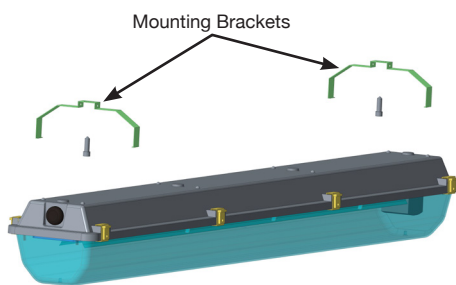

FIG 4
1. Install two stainless steel mounting brackets onto a flat surface with suitable fasteners (Fig 4).